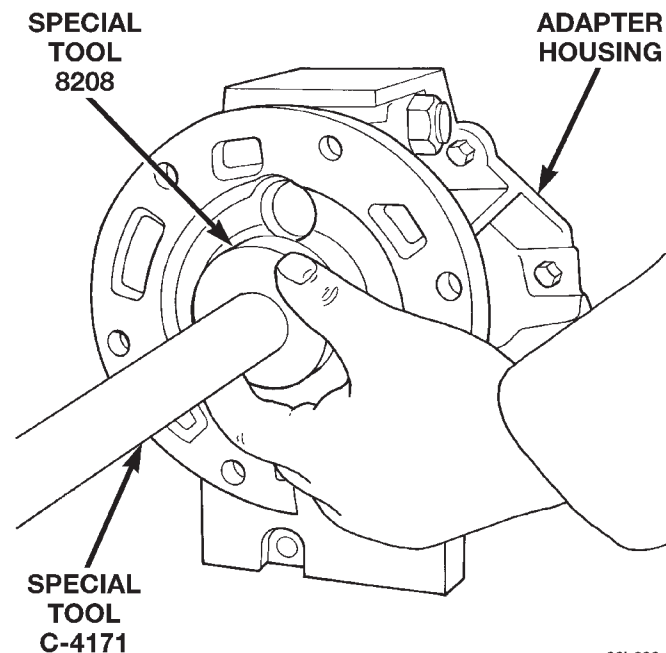

Fig. 16 Install Adapter Housing Seal
- (1) Clean seal bore of adapter housing of any residual sealer material from original seal.
- (2) Using Tool Handle C-4171 and Seal Installer 8208, install new seal so that the seal is located 0 ± 0.2 mm (0 ± 0.008 in.) to the seal bore face of adapter housing (Fig. 16).